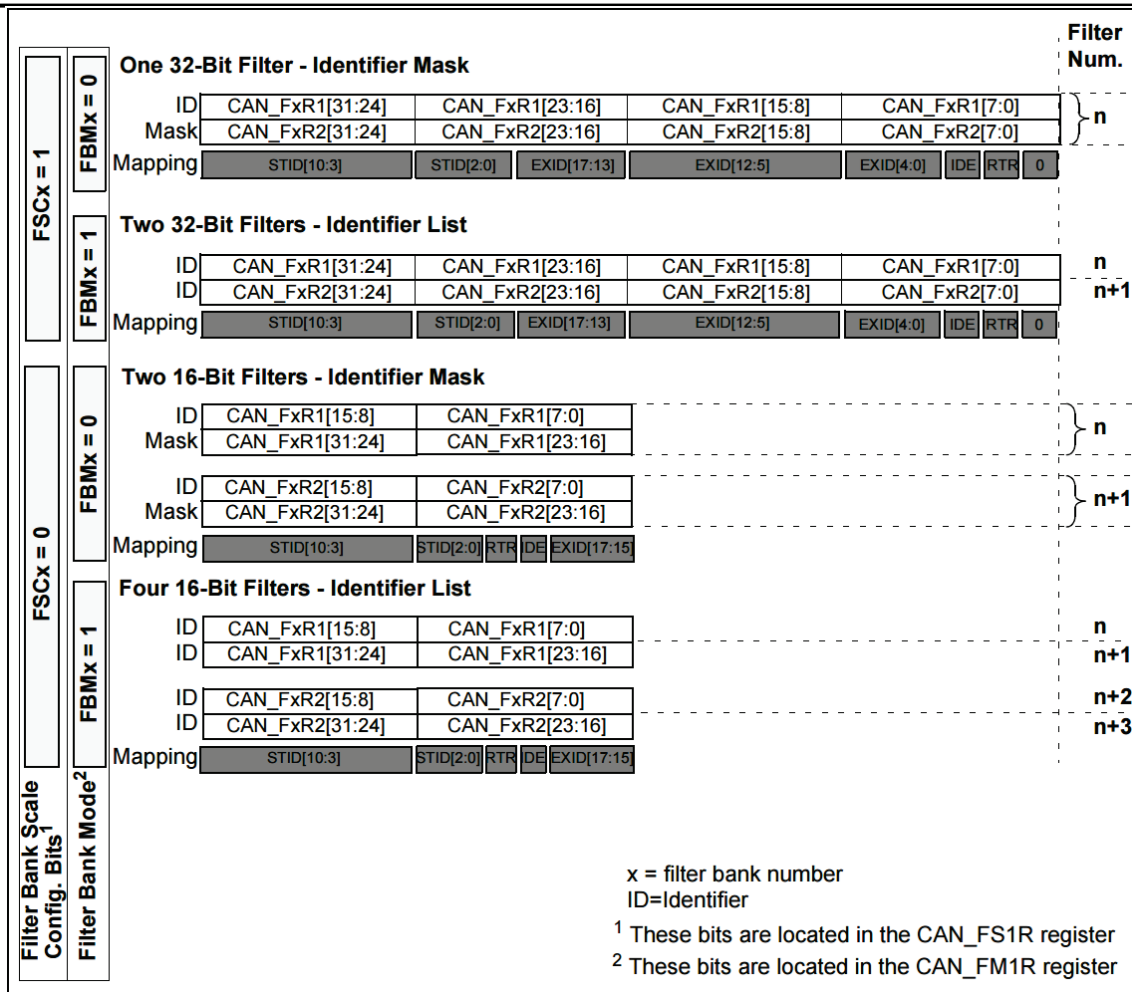

Figure203 Filter Group Bit Width Setting-Register Organization
- 2 16-bit filters including: STDID[10:0], IDE, RTR and EXTID[17:15] bits are available at Figure 203.
Filter groups can be configured via the corresponding CAN\_FMR register. Before configuring a filter group, it must be set to the disabled state by clearing the FACT bit of the CAN\_FAR register. By setting the corresponding FSCx bit of CAN\_FS1R, the to configure the bit width of a filter group, see Figure 203. With the FBMx bit of CAN\_FMR, the identifier list mode or the mask bit mode of the corresponding mask/identifier register can be configured.